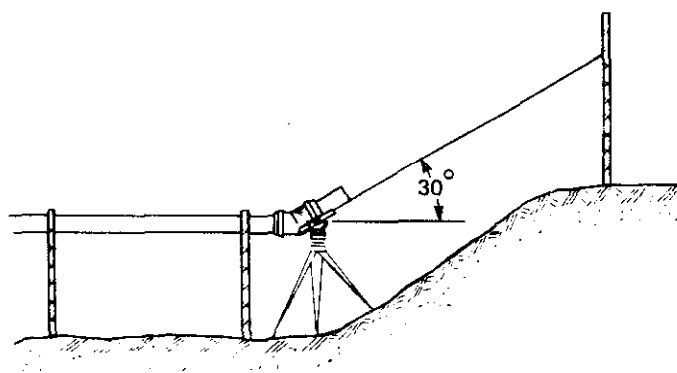

Fig. 5-54 Setting a pipe hanger
1. Set up the instrument at point A, figure 5-54.